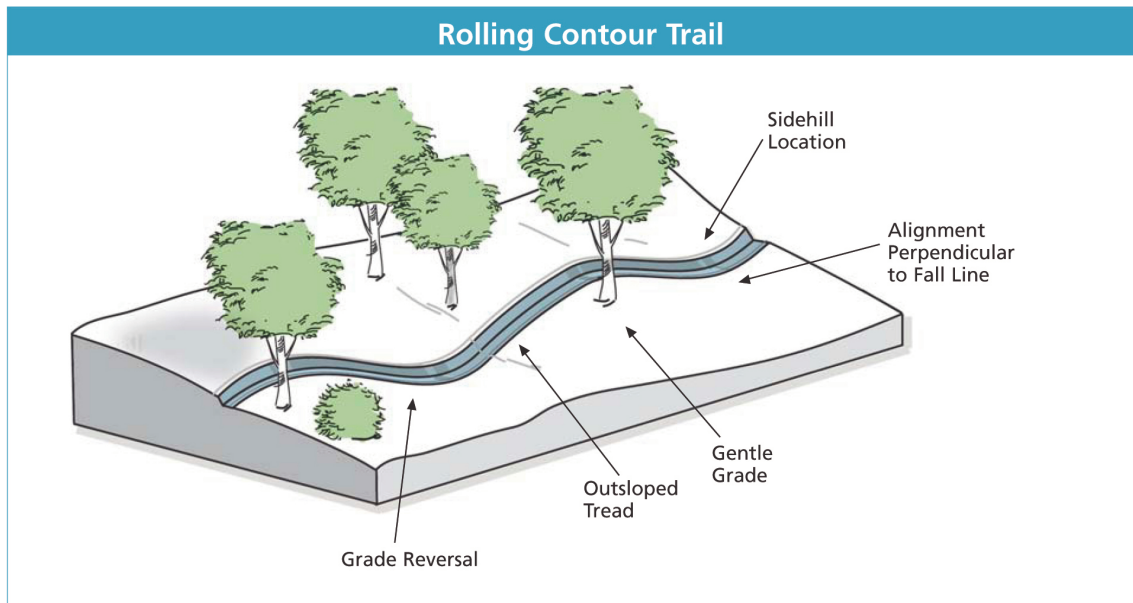

Figure 1: Rolling Contour Trail
7.1 Trail Construction (Figures 1 - 4)